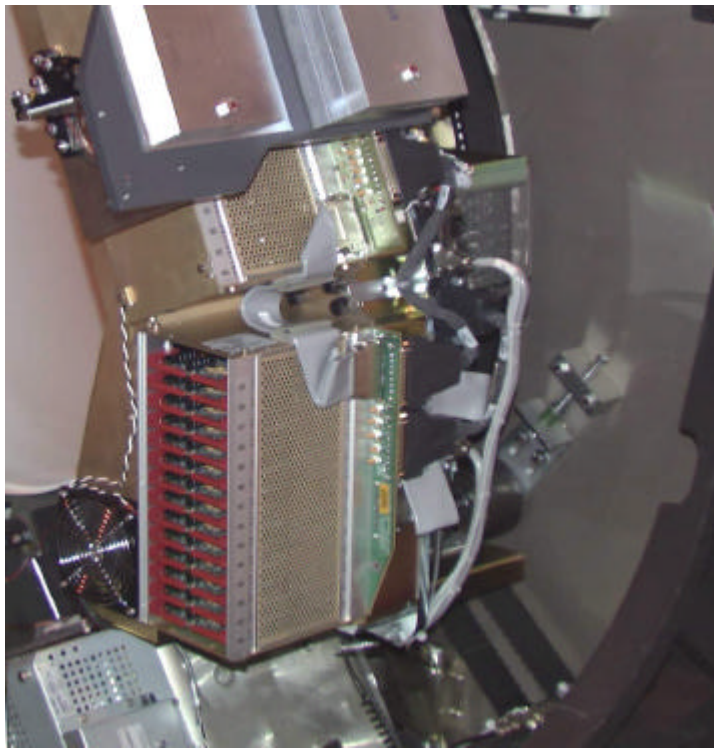

Figure 1 - Proper Positioning of DAS Chassis for Cleaning
5. Rotate and lock the gantry so that the DAS Chassis that you are working with is vertical so that run off from the Spray cleaner does not get into the elastomer housings. See Figure 1.